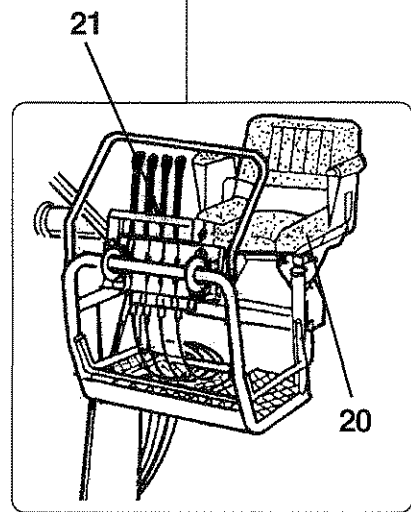

fig. 3a
- Version with top seat controls (fig. 3a) for crane by hand cables; optional and only with standard distributor.